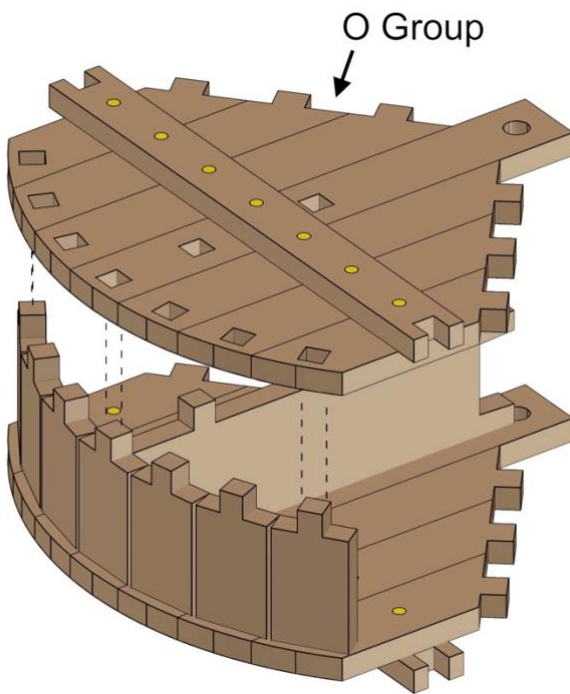

Fig. 79
- Align parts exactly as shown in *Fig. 79*.